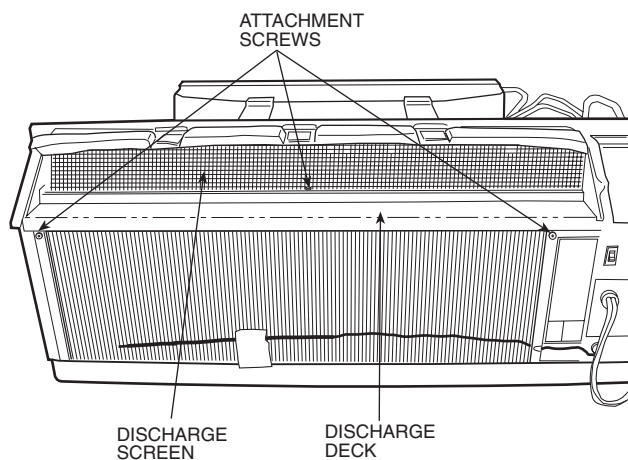

FIGURE 9 — LOCATION OF ATTACHMENT SCREWS ON DISCHARGE DECK OF UNIT
2. Remove discharge screen screw using a $\frac{5}{16}$ -in. nut driver. See Figure 9.
3. Remove the discharge deck assembly screws using a $\frac{5}{16}$ -in. nut driver. See Figure 9.